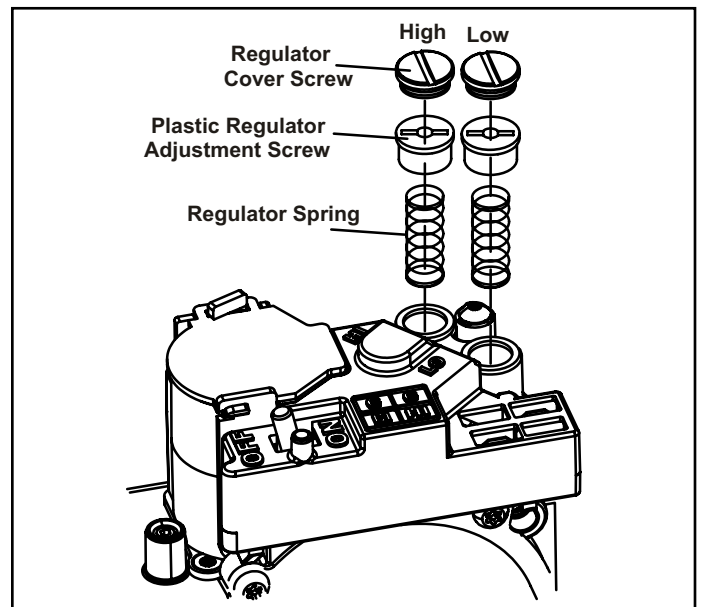

Figure 4.
- a. Remove both high fire and low fire springs from the gas valve. See Figure 4.